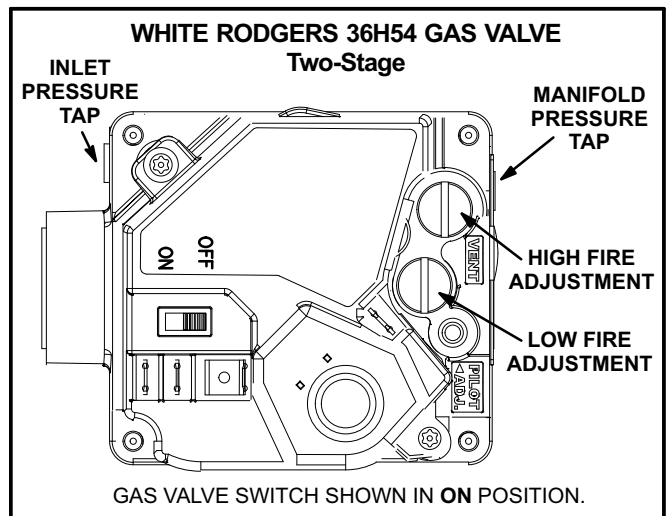
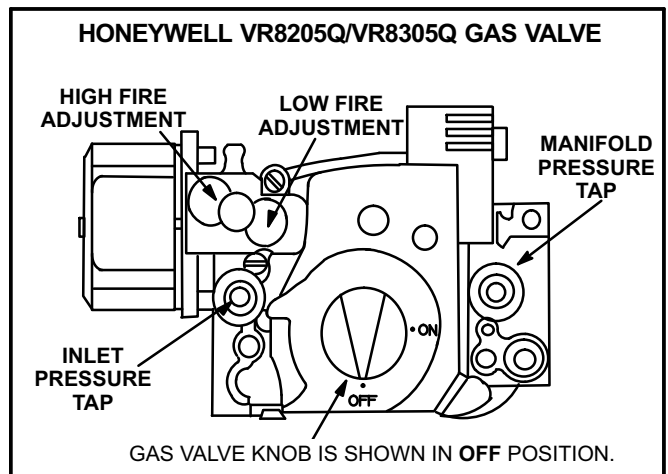

FIGURE 29
FIGURE 30
Gas Valve Operation for Honeywell VR8205Q/VR8305Q and White Rodgers 36H54 (figure 29 and 30).
- 5- Turn gas valve switch to **OFF**. See figure 29. On Honeywell VR8305Q gas valves, turn the knob on the gas valve clockwise  to “OFF”. Do not force. See figure 30.
- 6- Wait five (5) minutes to clear out any gas. If you then smell gas, **STOP!** Immediately call your gas supplier from a neighbor's phone. Follow the gas supplier's instructions. If you do not smell gas, go to the next step.
- 7- Turn gas valve switch to **ON**. See figure 29. On Honeywell VR8305Q gas valves, turn the knob on the gas valve counterclockwise  to “ON”. Do not force. See figure 30.